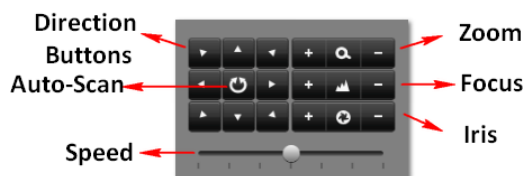

Figure 76 PTZ Controls Button
4. Using the Directional buttons and other PTZ control buttons (Zoom +/-, Focus +/-, the speed of the PTZ movement), test the functionality of the PTZ camera. If PTZ camera and protocol supports it, you may also click the Auto-Scan button to test its function. PTZ controls buttons are shown in Figure 76.